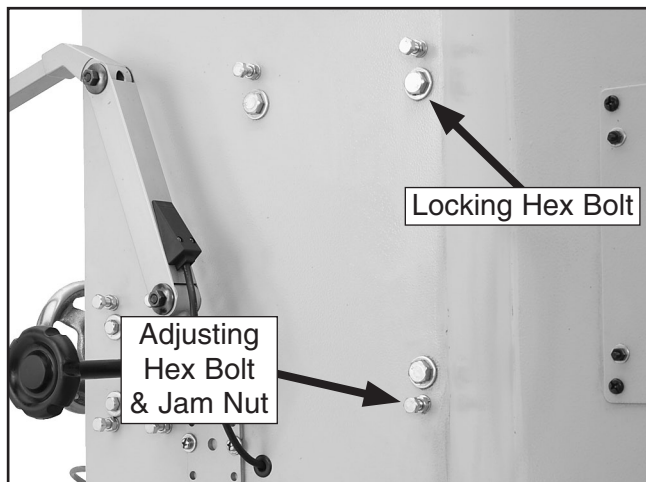

Figure 52. Model G8146Z upper wheel adjusting fasteners.
The Model G8146Z upper wheel adjusting fasteners consist of four locking hex bolts and four adjusting hex bolts with jam nuts (see **Figure 52**).
2. Use a 17mm wrench to loosen the locking hex bolts and a 12 mm wrench to loosen the jam nuts on the upper wheel (see **Figure 52**).